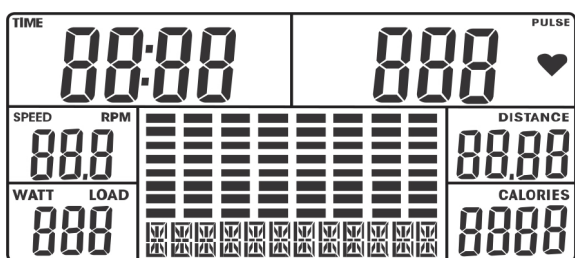

Figure 1
1. Connect monitor to the power or press RESET for three seconds and the LCD display will show all segments with a long beep (1-second-long) and display, i. e., 78.0 (software version) (see fig. 1 and 2).